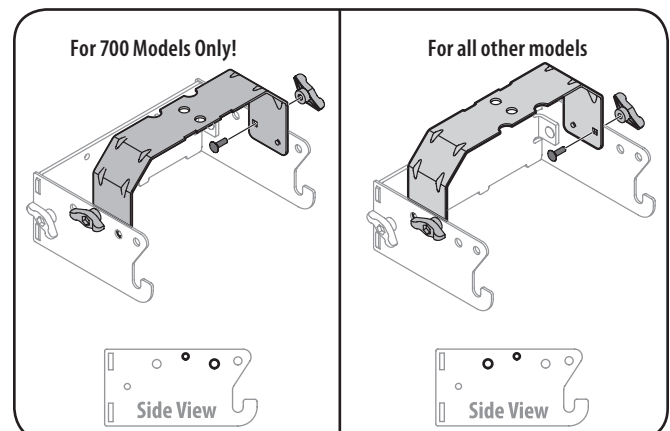

Figure 4-4
2. Flip over assembly and mount the hitch support bracket to the mounting assembly as shown in Figure 4-4.
Note: The holes closest to the mounting hooks are to be used for all 700 model series machines, while the two holes closest to the cross mount are for all other models. The hitch support bracket will need to be flipped to enable alignment of the proper holes depending on the model of machine this bagger is being installed on. See Figure 4-4.